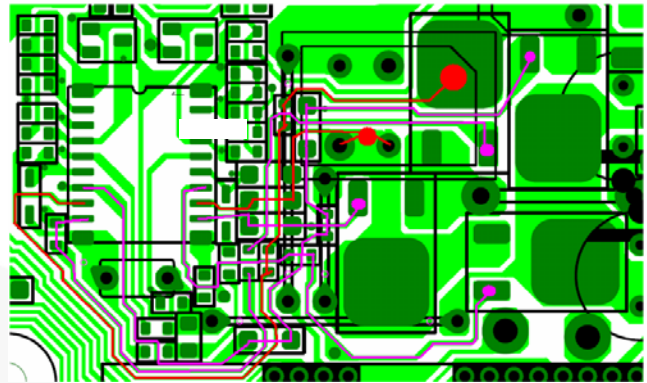

Figure 4. DHx & DLx Connection
- Figure 4 also shows the position of SG1577A and power-MOSFETs relatively. Do not place SG1577A in the center of the power-MOSFETs even though this simplifies the trace wiring.